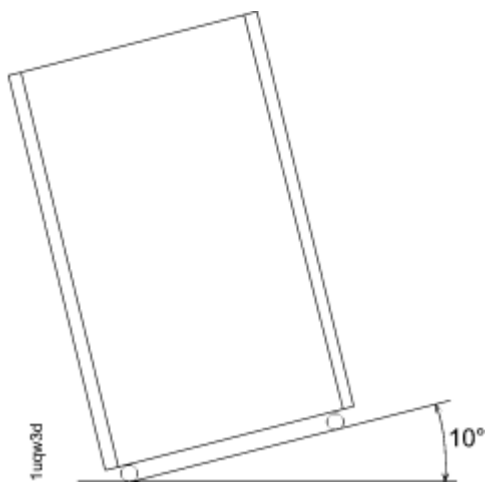

Figure 6. Maximum tilt for a packed frame is 10°
3. To compensate for the weight of the storage system shipment, ensure that the loading ramp at your site does not exceed an angle of 10°. (See Figure 6 on page 85.)